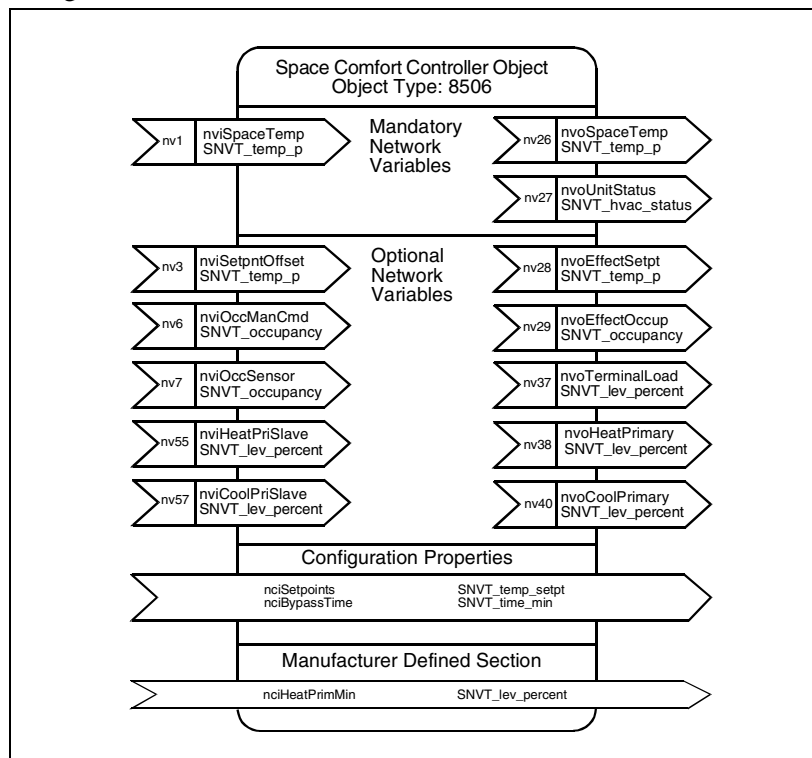

Figure 6.4 The space comfort controller
The variables in the two space comfort controller objects (figure 6.4) are separated into four categories: Mandatory (M), Optional (O), Manufacturer Defined Section (MDS) and Configuration properties (C)